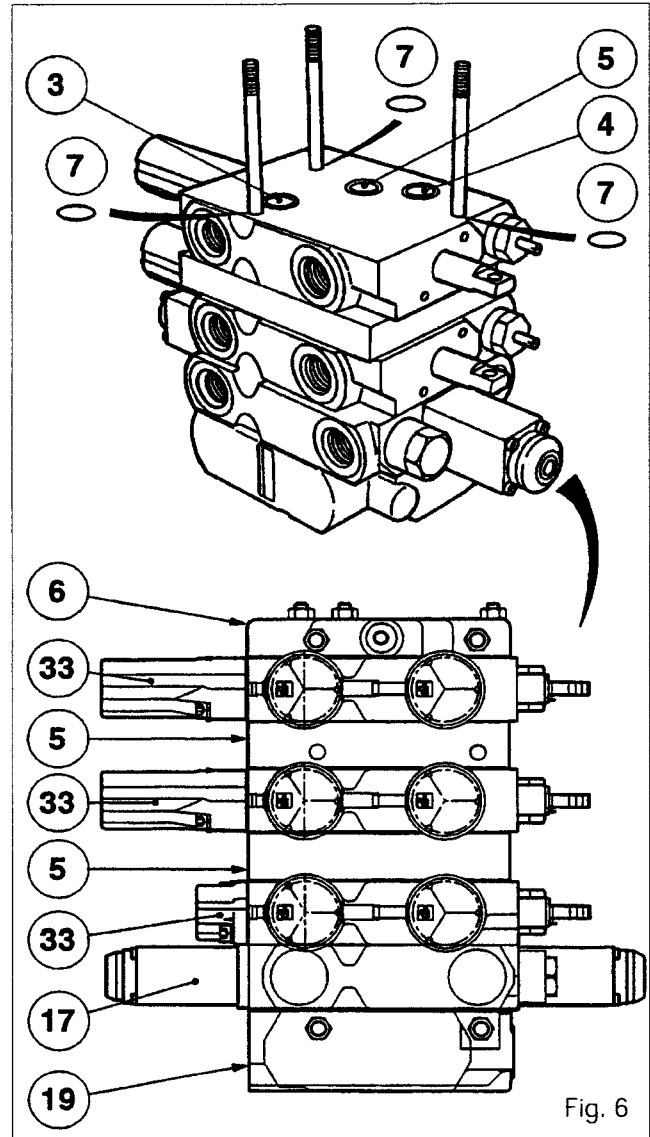

Fig. 6
### B . Assembly procedure (Figures 6 and 7)
To obtain correct fitting of the O-rings (3) to (5) and the thickness shims (7), each spool valve including the lift control valve must be reinstalled vertically as shown in Fig. 6.
**Important :** The thickness shims (7) allow the tightening load to be distributed on the three studs and not on all the spool valve contact faces. To avoid seizing of the spools, it is mandatory to comply with the correct fitting of shims and the specified tightening torque on nuts (8).